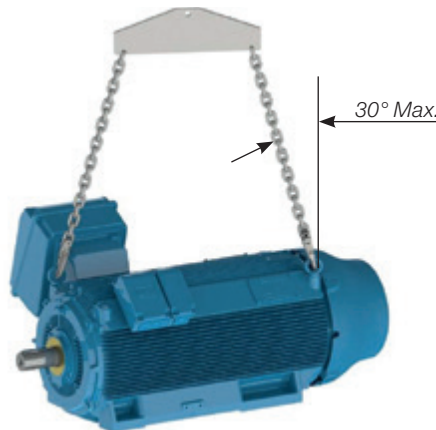

Figure 4.5 - Maximum resulting angle for horizontal HGF, W40 and W50 motors
- For HGF, W40 and W50 motors, as shown in Figure 4.5, the maximum resulting angle should not exceed 30° in relation to the vertical axis;